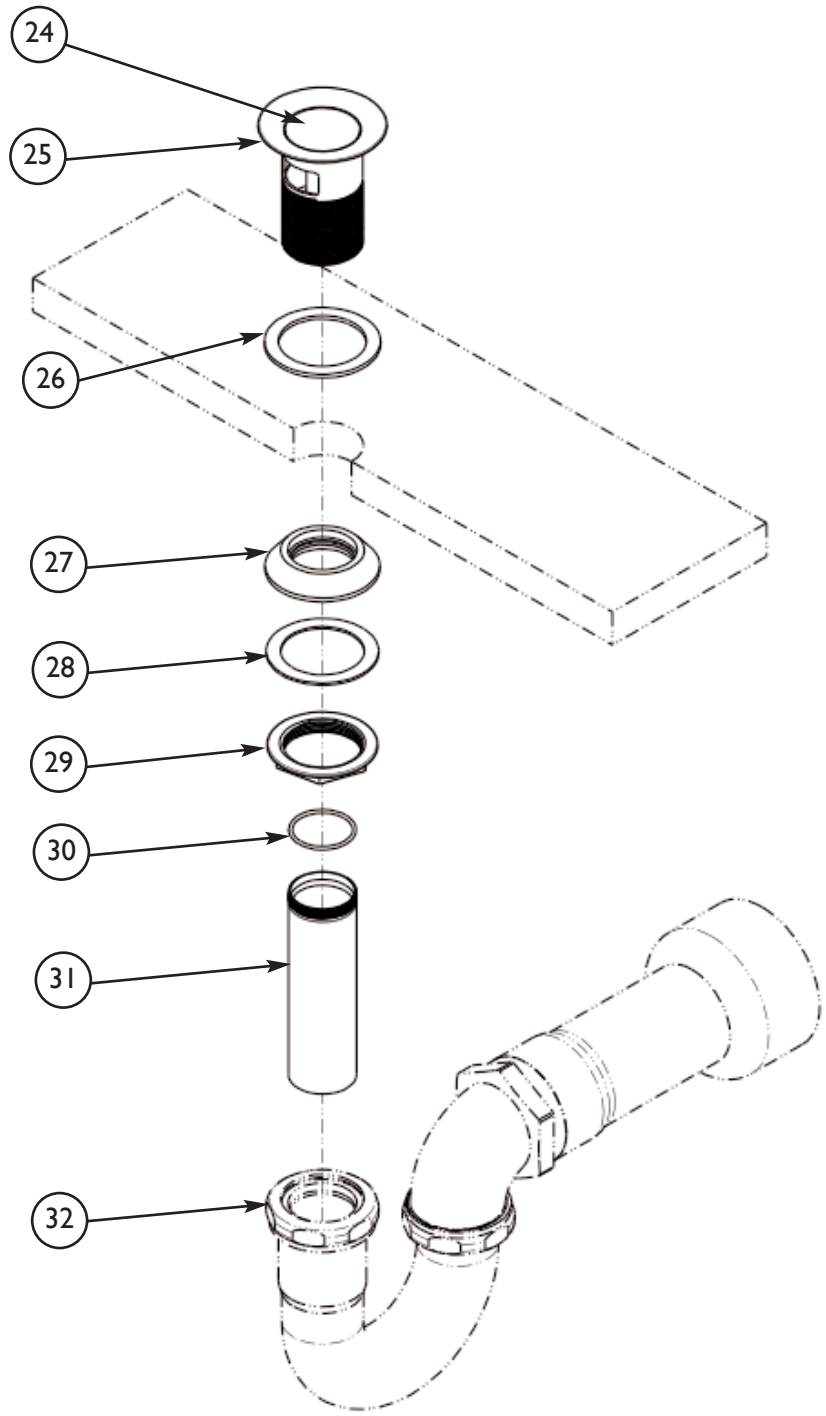

Figure 5
7. Do not remove drain PLUG (24) from FLANGE (25). Place FLANGE (25) and white WASHER (26) through sink drain opening. (Clear silicone may be used in place of white washer.) From bottom side of sink, place cone shaped rubber WASHER (27) onto FLANGE (25) and slide up against sink bottom. Note: Cone portion of WASHER (27) to face upward. Next slide on clear flat WASHER (28) and secure with flange NUT (29). Assemble O-RING (30) to TAILPIECE (31) and attach to drain FLANGE (25). Attach TAILPIECE (31) to p-trap drain (32) (not included). See **Figure 5**.